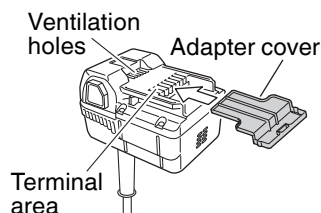

Fig. 16
- Attach the cover to the adapter when storing it to prevent short circuits. (Fig. 16) Short circuits caused by conductive objects coming into contact with the adapter terminals may result in overheating or the outbreak of smoke or fire.